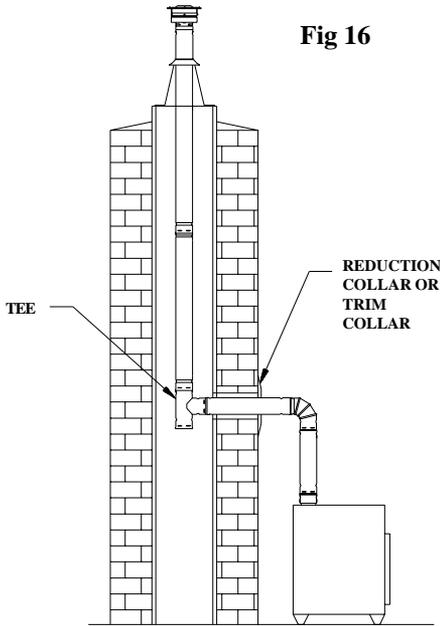

Fig 16
1. Set the appliance in it's final location and mark the center of the hole where the pipe is to penetrate the masonry chimney. (Figure 16). Insure that you comply with the manufacturer's specifications in regards to clearance and distances from combustible surfaces.
B. A Tee is installed at the bottom end of the vertical pipe. (Figure 16).
C. A Reduction Collar or a Trim Collar is required to go around the pipe section that passes through the masonry to give it a finished look. (Figure 16)